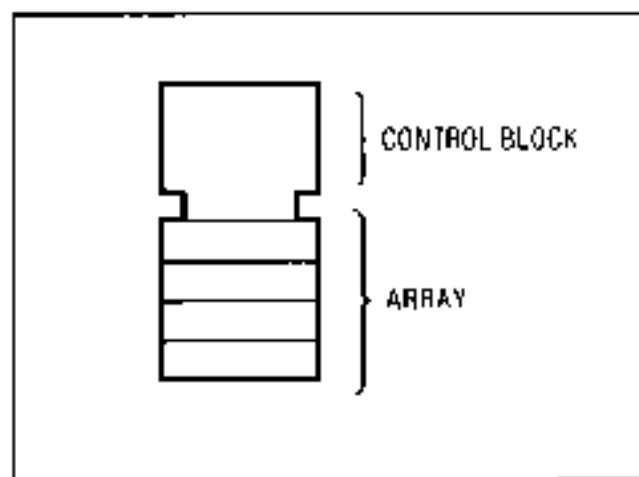
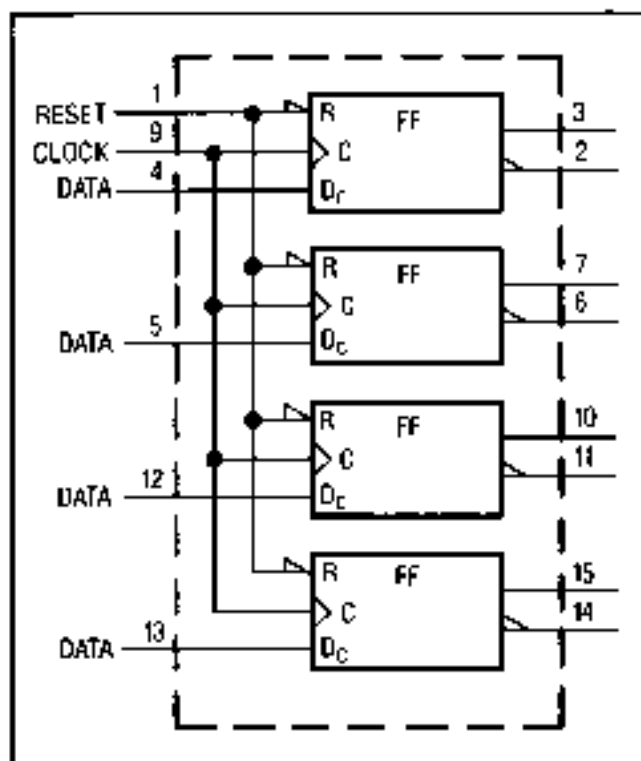
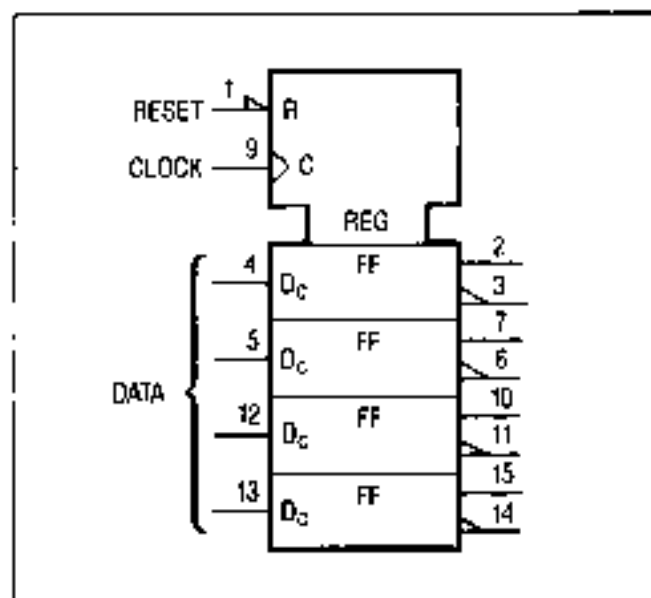

Figure 8-7. Common Control Block
Figure 8-9. Quad B-Type Latch (Individual)
Figure 8-8. Quad D-Type Latch (Combined)
**Common Control Block.** The control block is used in conjunction with an array of related symbols in order to group common logic lines. Figure 8-7 shows how the control block is usually represented. Figure 8-8 shows a quad D-type flip-flop with reset. This can be redrawn as shown in Figure 8-9. Note that the representation shown in
Figure 8-9 can be used when the flip-flops are functionally scattered around the schematic (i.e., not used as a quad unit).